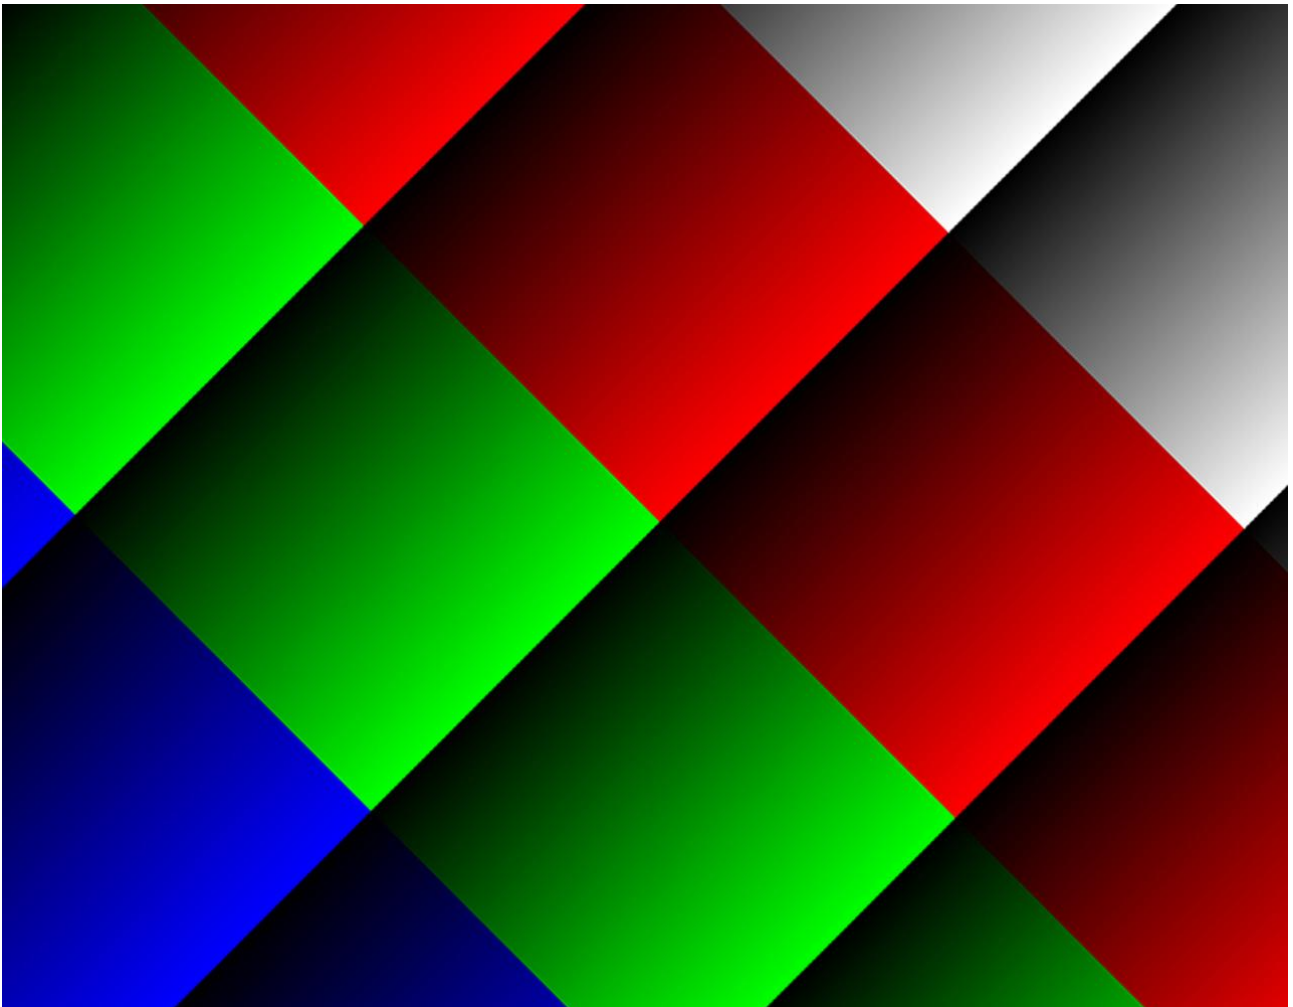

Figure 17 : Diagonal color pattern
6. Diagonal color ramp – diagonal gradient of several color stripes as shown in Figure 17.